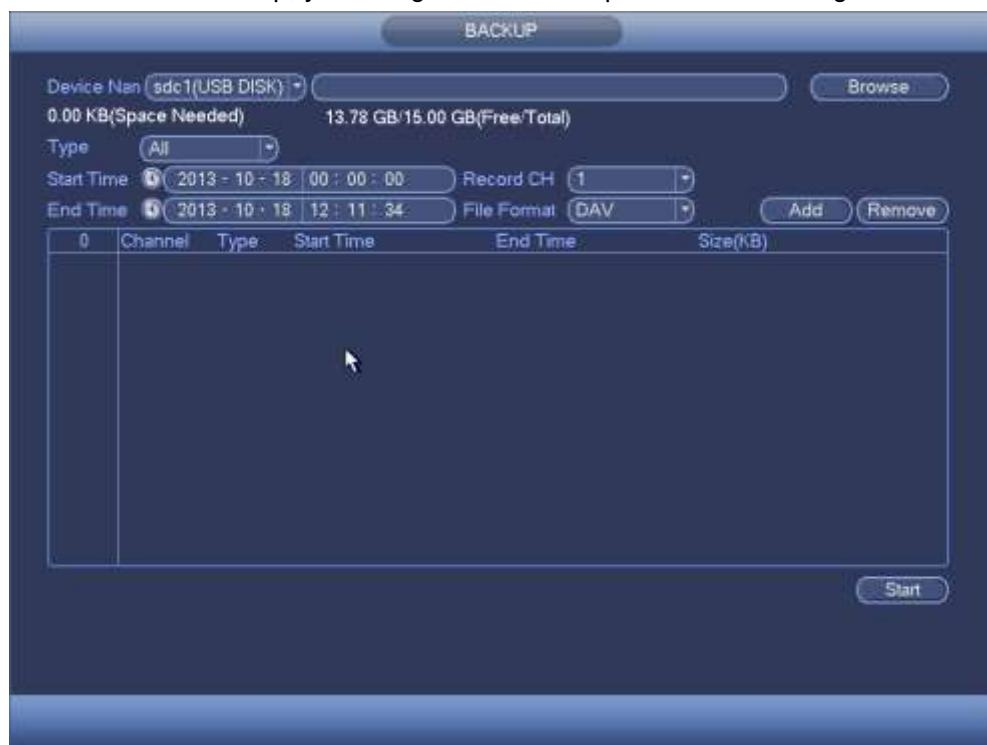

Figure 4-229
- From Main menu->Backup, you can go to the Backup interface. See Figure 4-229